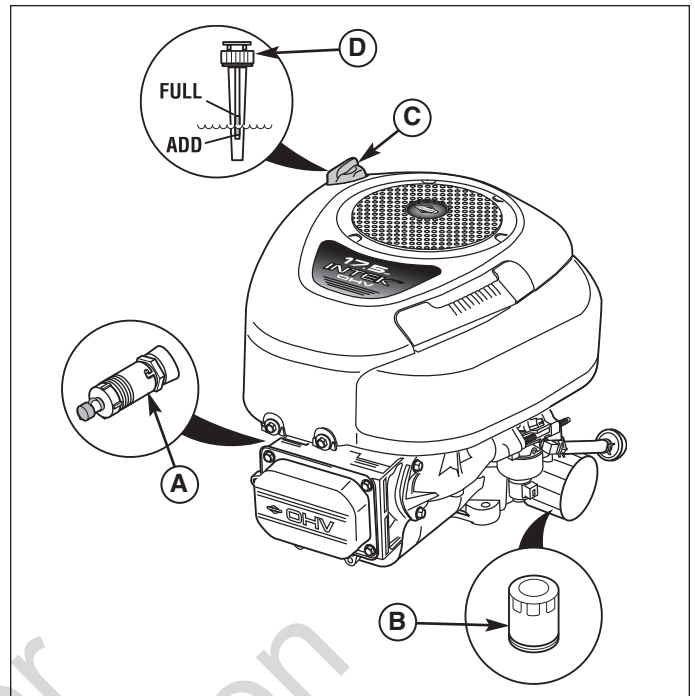
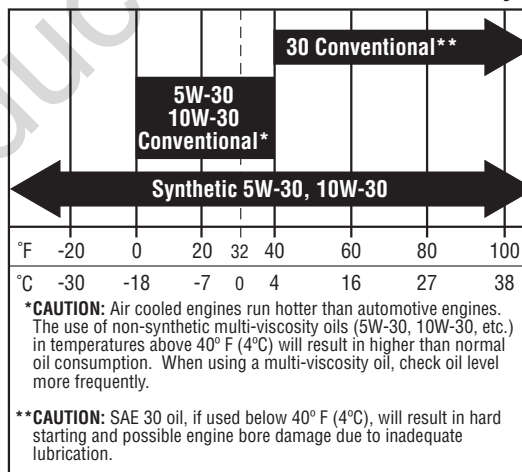

Figure 22. Briggs & Stratton Single Cylinder Models
Figure 25. Recommended Engine Oil - Briggs & Stratton Models
2. Clean the area around the dip stick (C, Figure 22 or 23).
3. Remove the dip stick (C) and clean it with a paper towel.
4. Insert the dip stick (C) back into the engine. Thread the cap back onto the tube.
5. Remove the dip stick and read the oil level. The oil level should be between the "FULL" and "ADD" marks (D). If not, add oil according to the oil recommendations chart (Figure 25).
1. Place a suitable container with a 4 quart capacity under the oil drain valve (A, Figure 22 or 23).
2. Loosen or remove the dip stick (C, Figure 22 or 23).
1. Clean the area around the dip stick (C, Figure 22 or 23) and oil drain valve (A).
3. Remove the oil filter (B). Discard the filter.